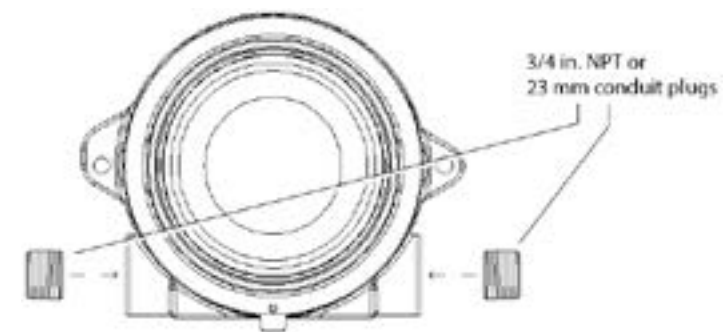

Figure 8. Detector, front view
- a. If only one conduit entry is used, install and seal the conduit plug on the unused entry (3/4 in. NPT or 25mm, as shown in Figure 8).